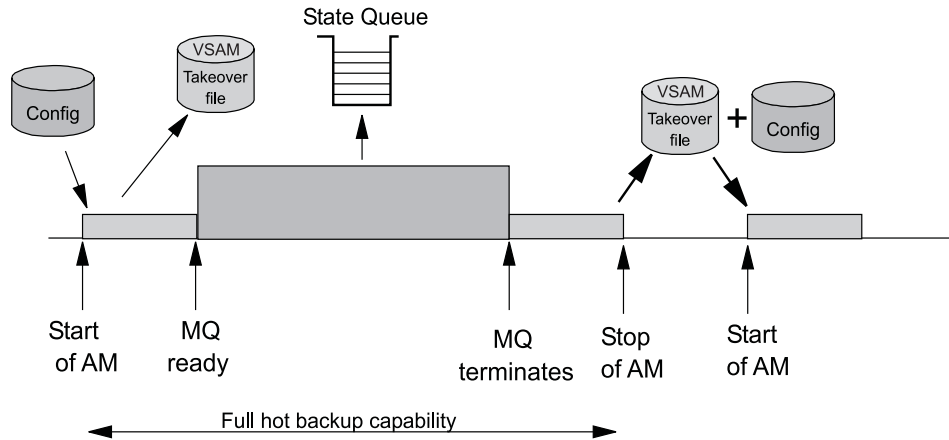

Figure 5. Automating MQSeries with SA OS/390
2. (Not represented in Figure 5) If the PAM or its system fail during the startup phase, a SAM becomes the new PAM. The new PAM reads the actual state of the automatable resources from the takeover file.
4. (Not represented in Figure 5) If the PAM or its system fail while MQSeries is running, a SAM becomes the new PAM. The new PAM uses the information of the shared MQSeries queues.
- (Not represented in Figure 5) When SAMs exist one of these becomes the new PAM.